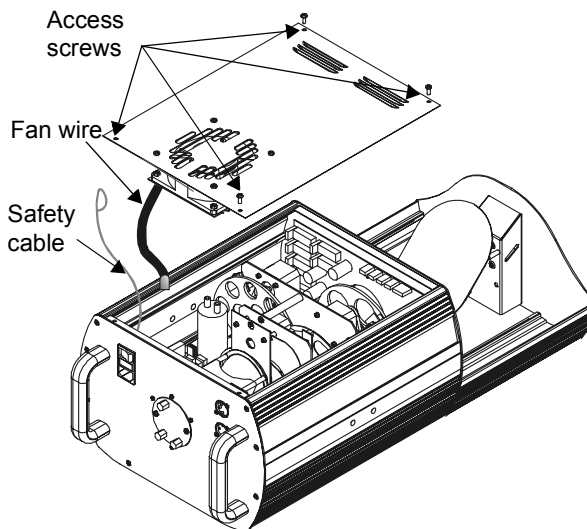

Figure 4-5 Removing Trackspot 2 access door.
2. Lay the fixture on its back and locate the door retaining screws, as shown in Figure 4-5. Remove the screws and lift the access door off the fixture.